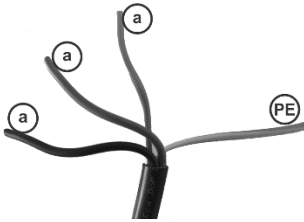

Figure 3.1 Feed line connection
7. Connect the chassis clamp to the chassis connection output in Figure 3.1. Pay attention to the polarity when connecting.